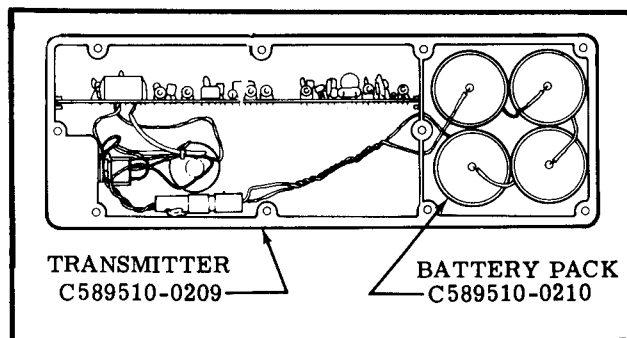

Figure 16-14. Lithium 4 Cell Battery Pack Installations
#### 16-94. REMOVAL AND INSTALLATION OF LITHIUM FOUR (4) CELL BATTERY-PACK. (Refer to figure 16-14.)
- d. Place new battery-pack in the transmitter with four batteries as shown in the case in figure 16-14.
- e. Connect the electrical connector as shown in figure 16-14.